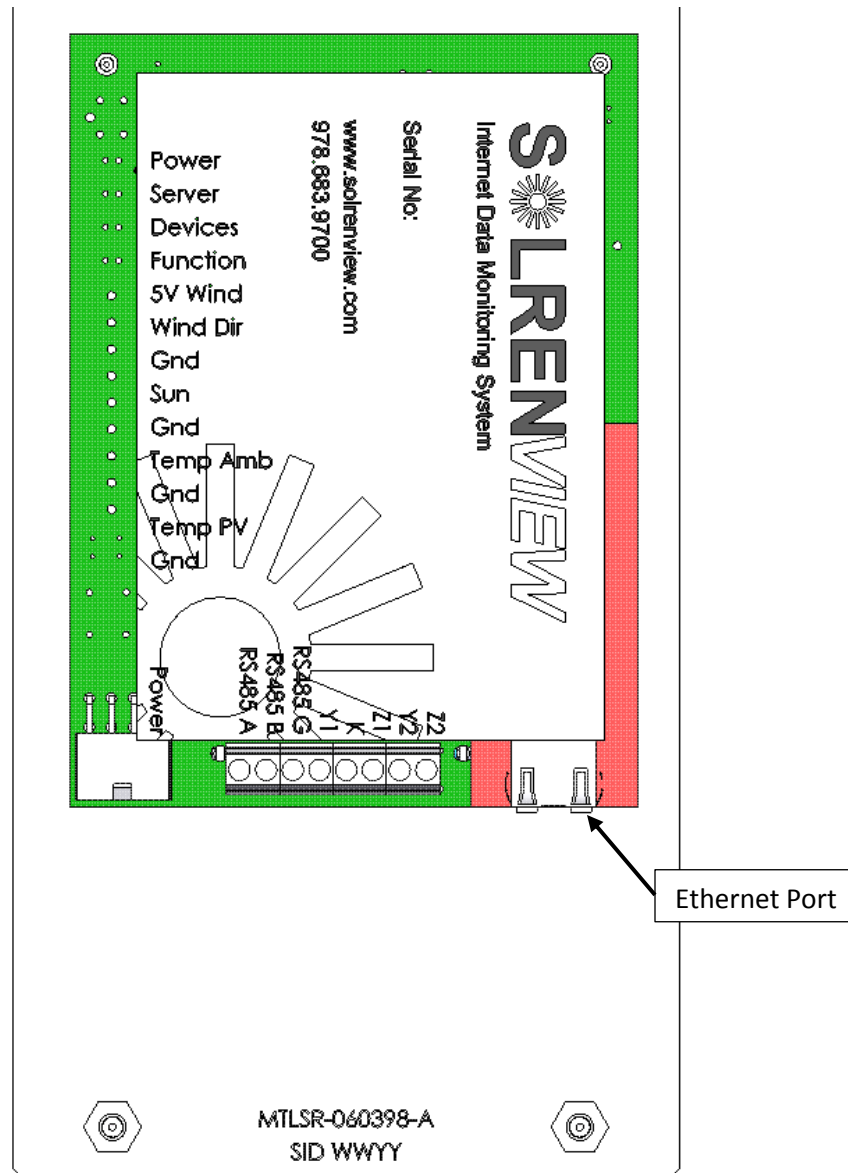

Figure 7.4—Ethernet Connection to the Back of the SolrenView DAS
The SolrenView Data Acquisition System (DAS) is located on the back of the leftmost door, as shown in the figure below. The Ethernet connection shown in Figure 7.4 is utilized with the SolrenView monitoring services to connect the SolrenView DAS to the internet.
2. Plug a Cat 5e or better networking cable into Ethernet port (see Figure 7.4).